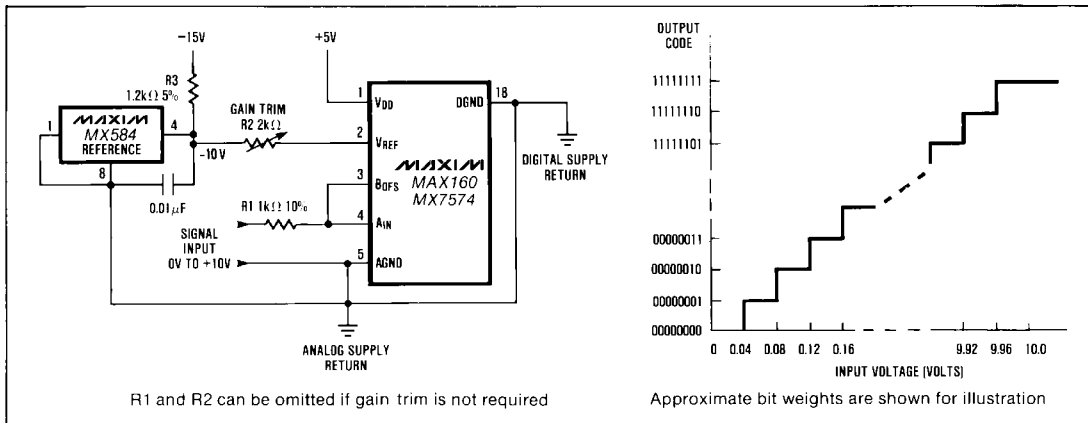
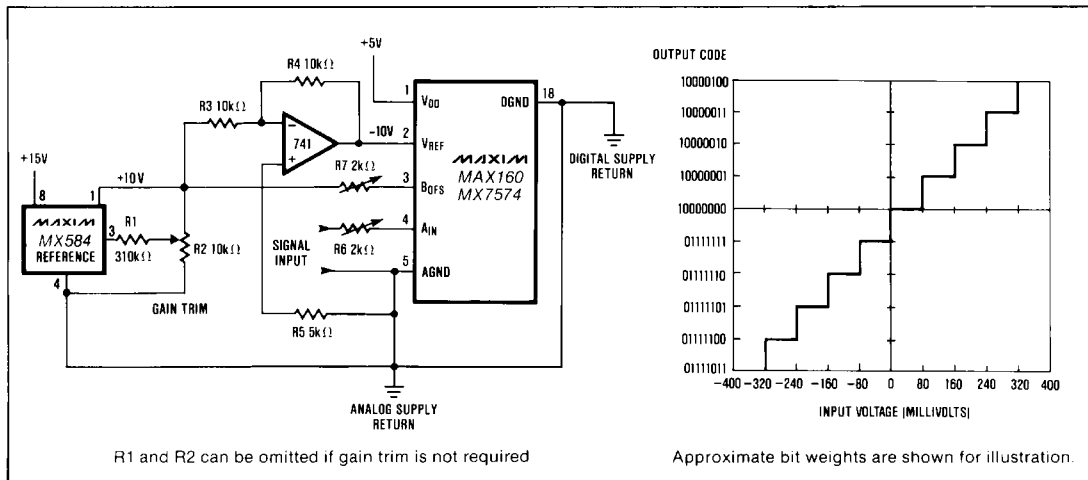
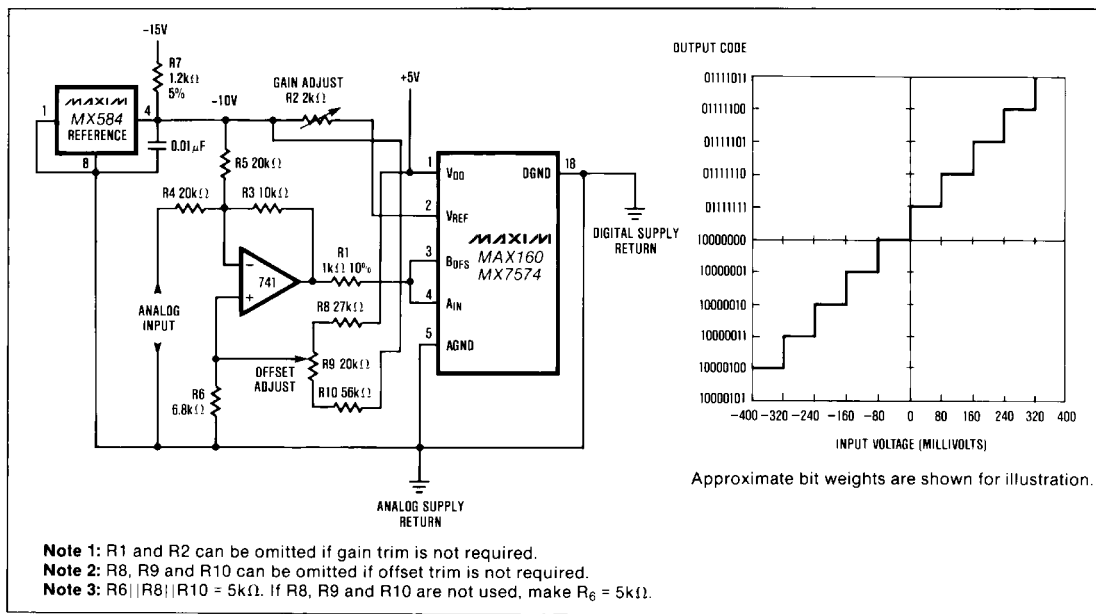

Figure 10. Unipolar (0V to +10V) Operation and Nominal Transfer Characteristic (Output Code is Straight Binary)
Figure 11. Bipolar (-10V to +10V) Operation and Nominal Transfer Characteristic Around Major Carry (Output Code is Offset Binary)
Figure 12. Bipolar (-10V to +10V) Operation and Nominal Transfer Characteristic Around Major Carry (Output Code is Complimentary Offset Binary)
Offset error in the transfer function can be trimmed by offsetting the buffer that drives the  $A_{IN}$  input. This can be achieved either by summing a cancellation current into the amplifier's summing junction, or by tapping a voltage divider which sits between  $V_{DD}$  and  $V_{REF}$  and applying the tap voltage to the amplifier's non-inverting input. An example of the latter method can be seen in Figure 12.
Figure 10 shows the analog circuit connections and nominal transfer characteristic for unipolar operation. Calibration is as follows:
If offset trimming is required, it must be done in the signal conditioning circuitry used to drive the  $A_{IN}$  input in Figure 10. See also the offset trim example shown in Figure 12.
Figure 11 illustrates the analog circuitry and transfer function for bipolar operation. The output coding is offset binary. Offset correction can be performed at the buffer amplifier used to drive the signal input terminals of the MAX160/MX7574. See Figure 12 for an example of how offset trimming can be performed. Calibration is as follows:
Figure 12 shows the analog connections for offset binary operation. The typical transfer characteristic is also shown. In this bipolar mode, the input signal (-10 to +10V) is conditioned and the A/D basically operates in unipolar mode (0 to +10V). Calibration is as follows (offset adjusted before gain):
1. Apply 0V to the analog input shown in Figure 12.
1. Apply -9.922V across the analog input terminals shown in Figure 12.